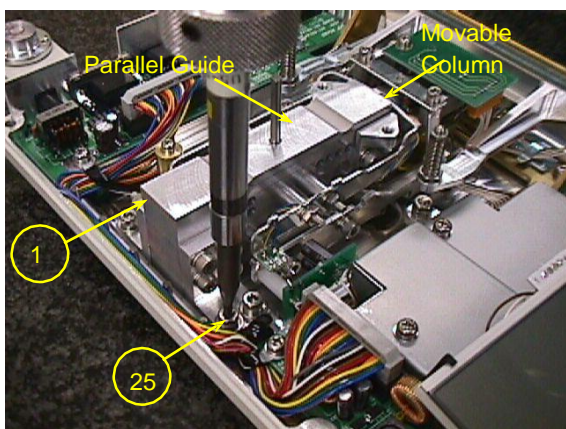

Fig.13
16.8 Replacing the Unit assy (1)
- Detach the Assy,Case (3) / Assy,Pan support (4) in accordance with the steps outlined in “3. Inspection of the Balance Interior”.
- Loosen the P3 M4X14 hexagonal socket-head bolt (25) fixing the Unit assy (1) in place to detach the Unit assy (1) (Fig.13).